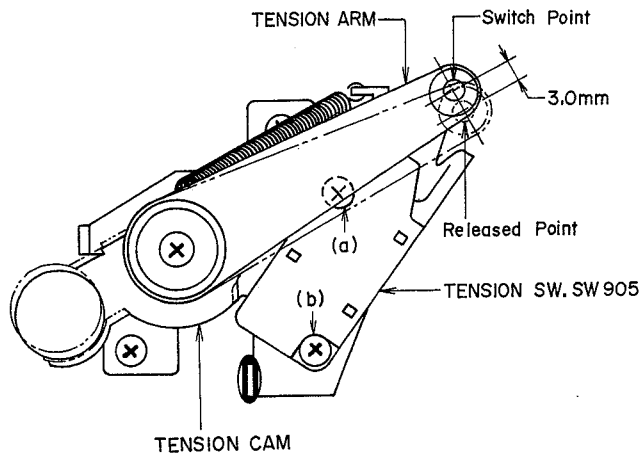

Fig. 12
2. TENSION MICROSWITCH POSITION ADJUSTMENT (Refer to Fig. 12)